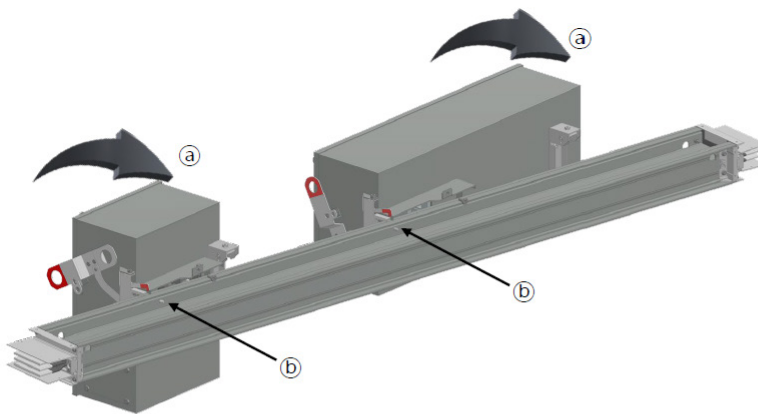

Figure 23. Mounting
2. Tilt the plug-in unit toward the guide-pins and insert the guide-pins into the guide-pin holes of the busway to adjust the position. (Figure 23, a)
3. Use the guide-pins as support points and press the left side of the plug-in unit to insert the finger contact into the tap bar. (Figure 23, b)